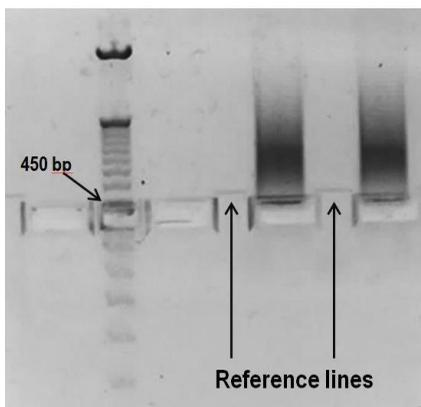

Fig. 2: Size selection with the E-Gel™ SizeSelect™ 2% Agarose Gel for 400-base-length libraries (400bp target peak)
16. Press "Go" to restart the run and monitoring the marker (M) well frequently, stop the run when the band 450 bp of ladder reaches the reference line (Fig. 2).